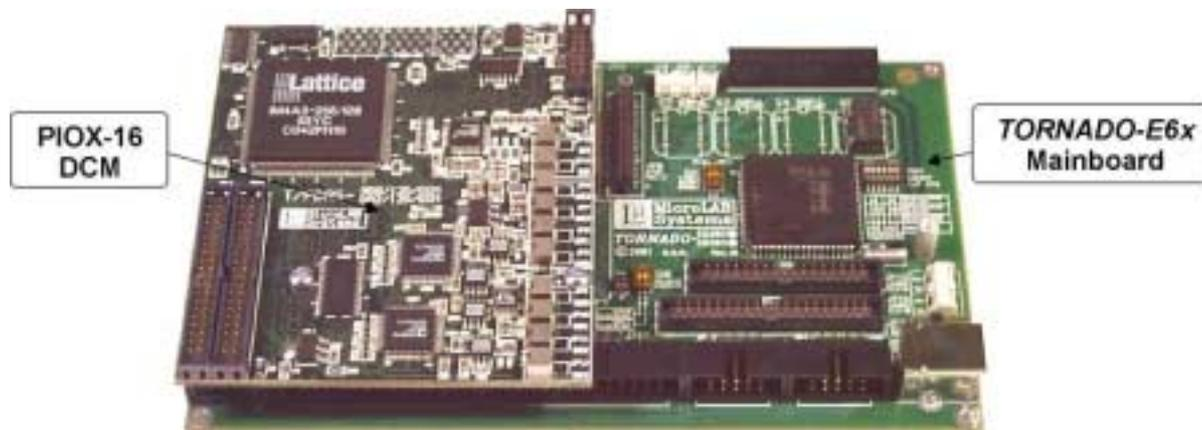

Fig.2-9. Installation of PIOX-16 DCM onto *TORNADO-E6x* mainboard.
*TORNADO-E6x* DSP controller architecture provides expansion of the on-board I/O resources using 16-bit parallel I/O expansion (PIOX-16) interface site for compatible DCM, which must be installed above the *TORNADO-E6x* mainboard (refer to fig.1-1, fig.1-2 and fig.2-9).
Figure 2-9 shows installation of PIOX-16 DCM onto *TORNADO-E6x* DSP controller.